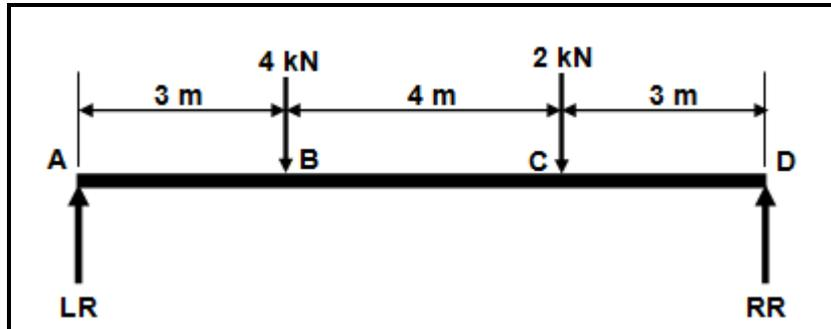

FIGURE 7.2
7.2 FIGURE 7.2 below shows a beam, 10 m long, that is subjected to two vertical forces. A force of 4 kN is 3 m from point **A** and a force of 2 kN is 7 m from point **A**.